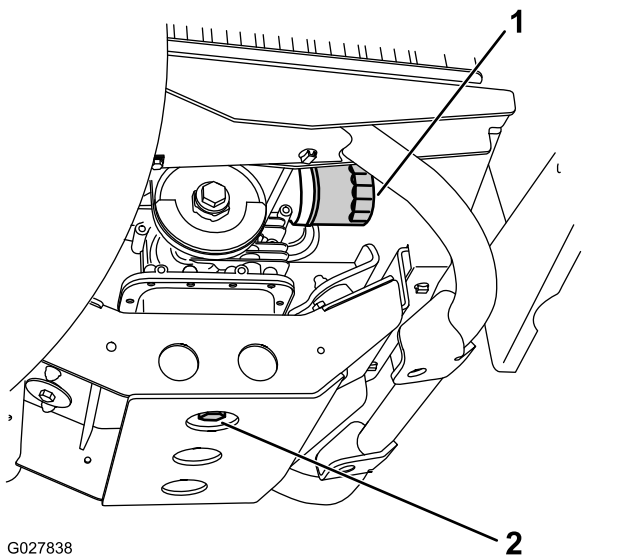

Figure 34
7. Place a drain pan under the drain plug (Figure 34).
8. Remove the drain plug (Figure 34).
9. Install the drain plug and seal (Figure 34) and torque the plug to 45 to 53 N·m (33 to 39 ft-lb).
2. Remove the existing oil filter (Figure 34).
4. Thread the new filter onto the filter adapter until the gasket contacts the mounting plate, then tighten the filter an additional 1/2 to 3/4 turn (Figure 34).